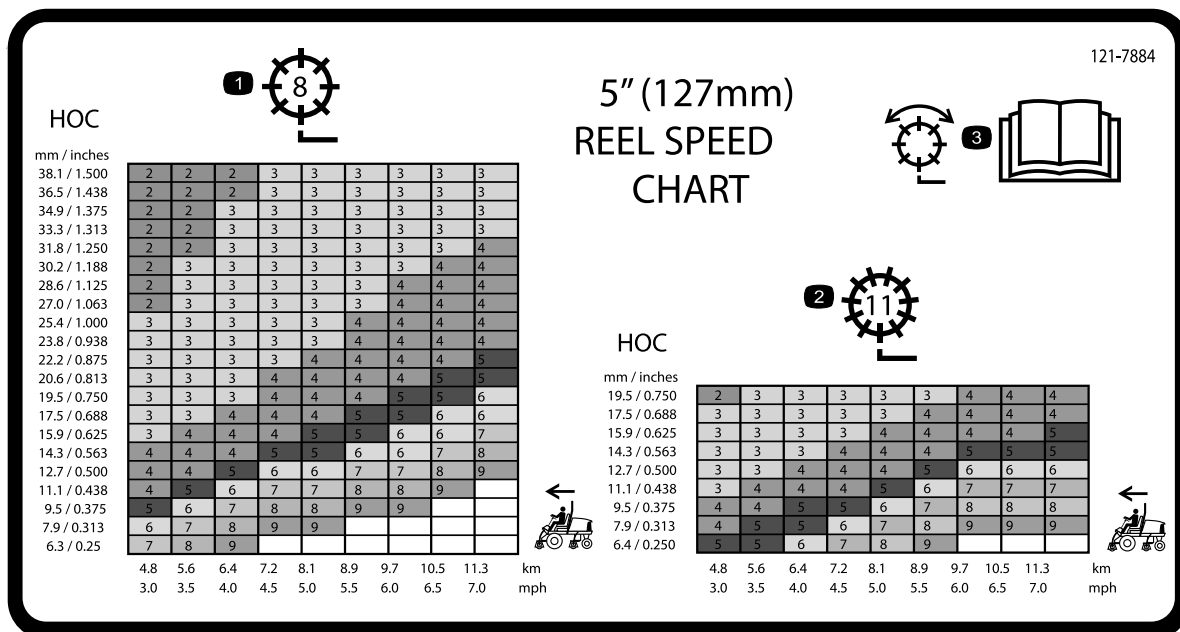

Figure 31
3. Use the graph, on reel speed chart decal (Figure 31), to determine the proper reel speed setting.